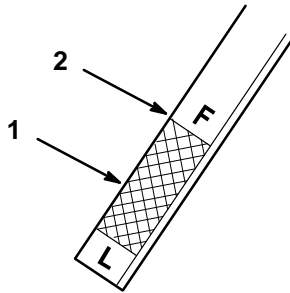

Figure 46
5. Slide the dipstick fully into the filler tube (Fig. 5). Pull the dipstick out and look at the metal end. When the transaxle is cold, oil should be in the operating range, below the FULL line on the dipstick (Fig. 46).